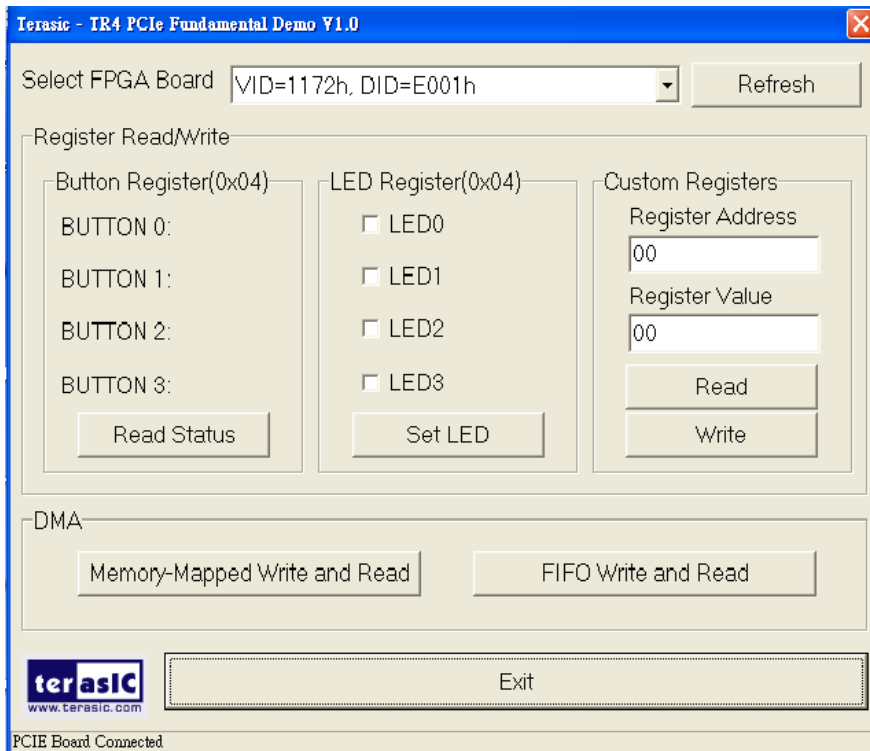

Figure 6-13 PCIe Fundamental Demo GUI
- Launch the demo program `PCIe_Fundamental_Demo.exe` shown in Figure 6-13.